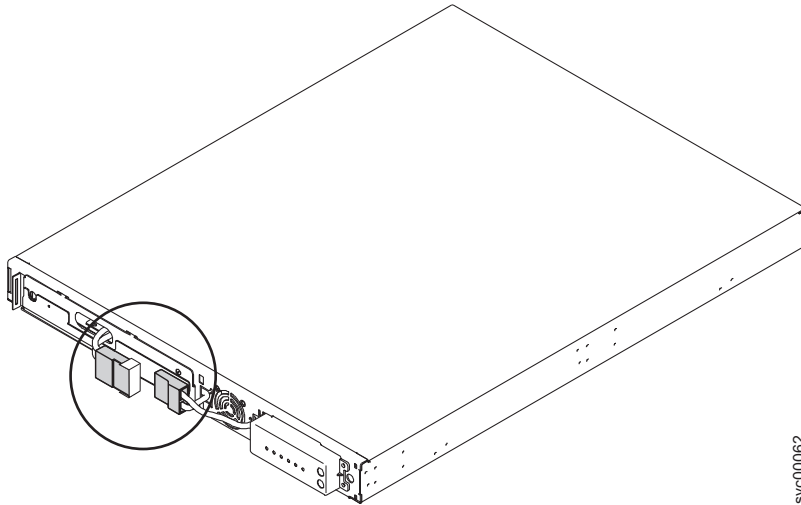

Figure 318. The 2145 UPS-1U internal battery connector with protective tape
6. Remove the protective tape from the internal battery connector (circled in Figure 318 on page 313).